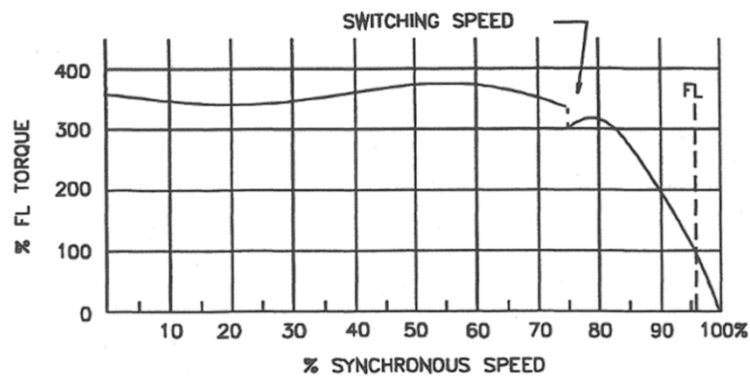

Figure 10 - Typical characteristic curve of a capacitor start motor
29. A typical characteristic curve for a split-phase motor is shown in Figure 10. The starting torque can be up to about 2.5 times the starting torque of an equivalent split-phase motor - depending on the capacitor chosen by the manufacturer.